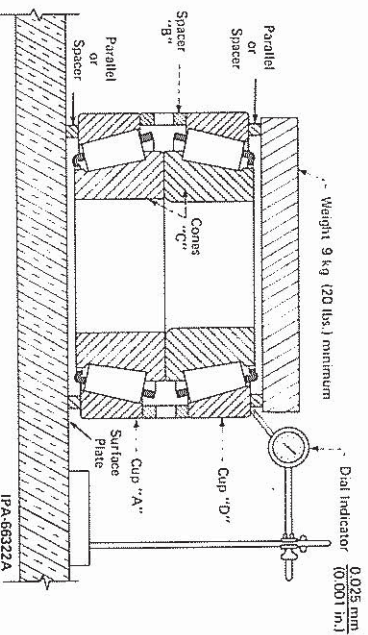

FIG. 60 — Adjustment of Tapered Roller Bearings
Procedure for Servicing and Adjusting Tapered Roller Bearings (Refer to Fig. 60)
2. Place a weight (20 pounds minimum) on top of bearing assembly as shown in Fig. 60. This will keep the rollers in alignment.
NOTE: Be sure to place parallels or spacers on the bearing, and then rest the weight on top of the parallels or spacers. This is done so the weight is free from touching the bearing cone or rollers and the proper thrust is given. The same must be done between the bottom surface of the bearing cup and the surface plate (Fig. 60). Bottom parallels must be of equal thickness.
Tapered Roller Bearings (Refer to Fig. 60)